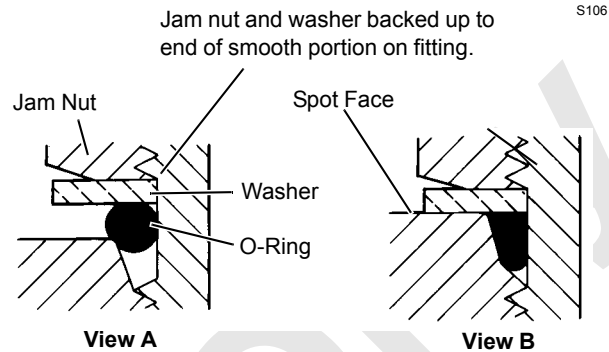

Figure 2-20. Correct SAE O-ring Seating
1. Back up the jam nut and washer to the end of the smooth portion on the fitting as shown in Figure 2-20, View A.
3. Thread the fitting into the port until the washer bottoms against the spot face as shown in Figure 2-20, View B.
4. Tighten the jam nut. When the fitting is properly installed, the O-ring will completely fill the seal cavity and the washer will be tight against the spot face as shown in Figure 2-20, View B.